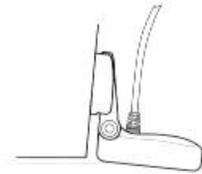

Figure 9
1. First adjust the pivot angle of the transducer body so its length is parallel with the length of hull of the boat. Then pivot the transducer down so the rear is about 1/4 inch (6mm) lower than the front (Figure 9).